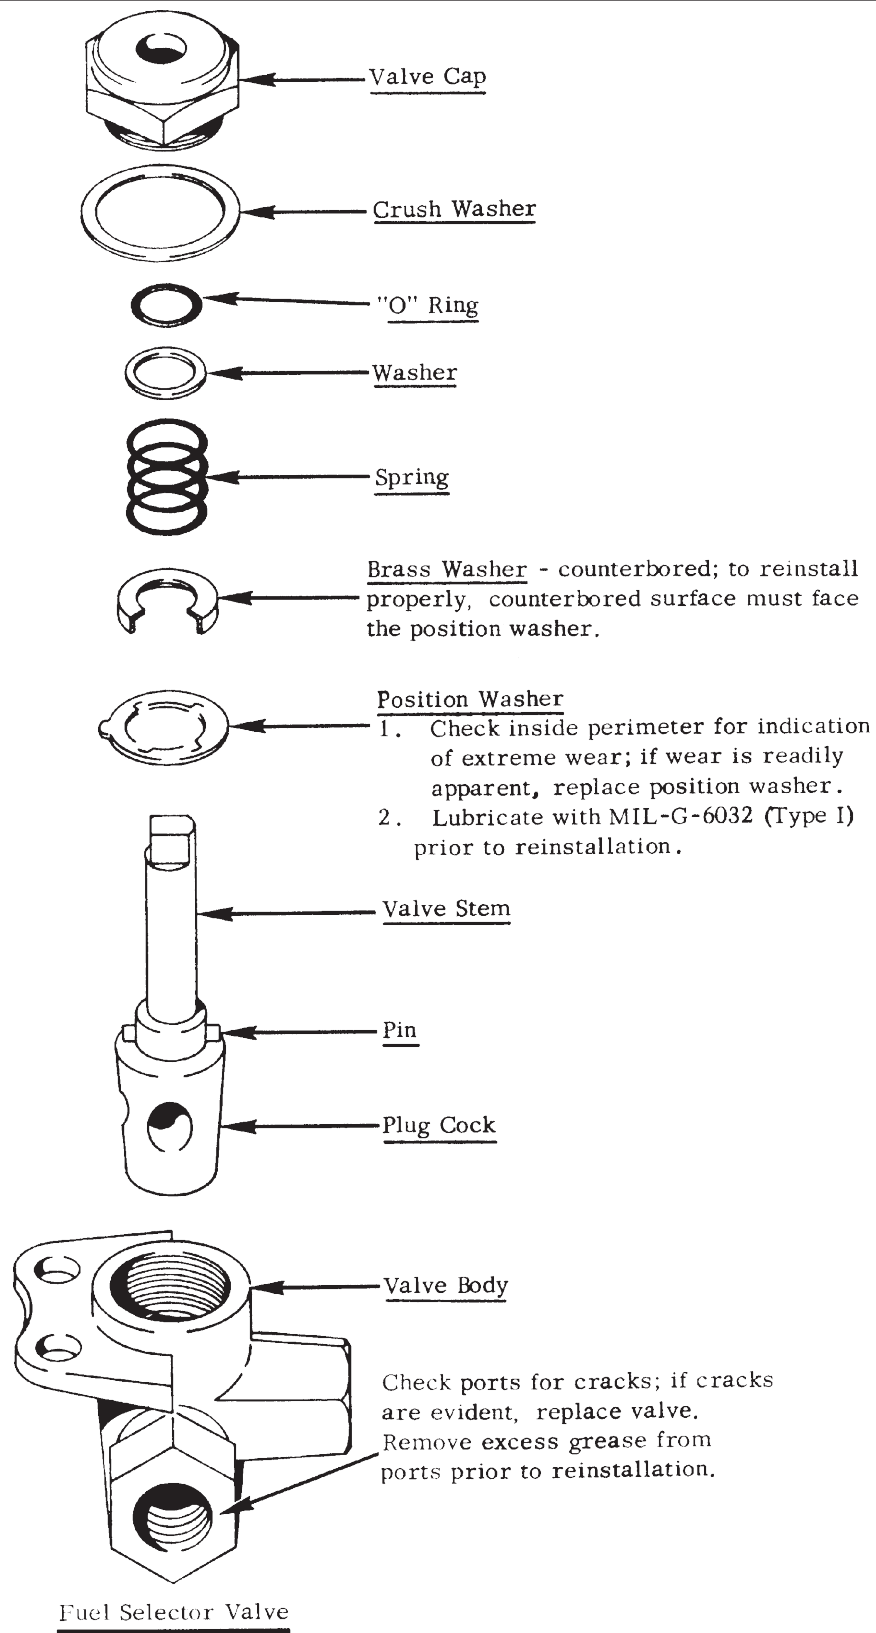

Figure 3-5
- With the valve removed from the aircraft, remove the valve cap and interior parts (see Figure 3-5).